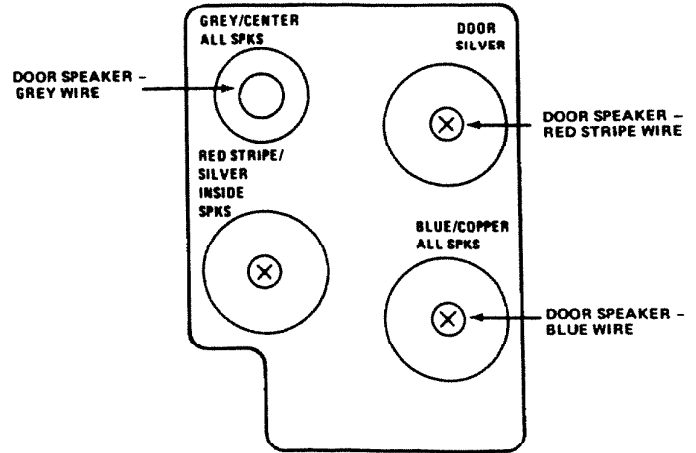

FIGURE 13
1. Connect **RED STRIPE** wire from door speaker to terminal screw marked **DOOR SILVER** on the master unit's terminal board. See Figure 13.
2. Connect **GREY** wire from door speaker to binding post marked **GREY/CENTER** on master unit's terminal board. See Figure 13.
3. Connect **BLUE** wire from door speaker to terminal screw marked **BLUE/COPPER** on master unit's terminal board. See Figure 13.